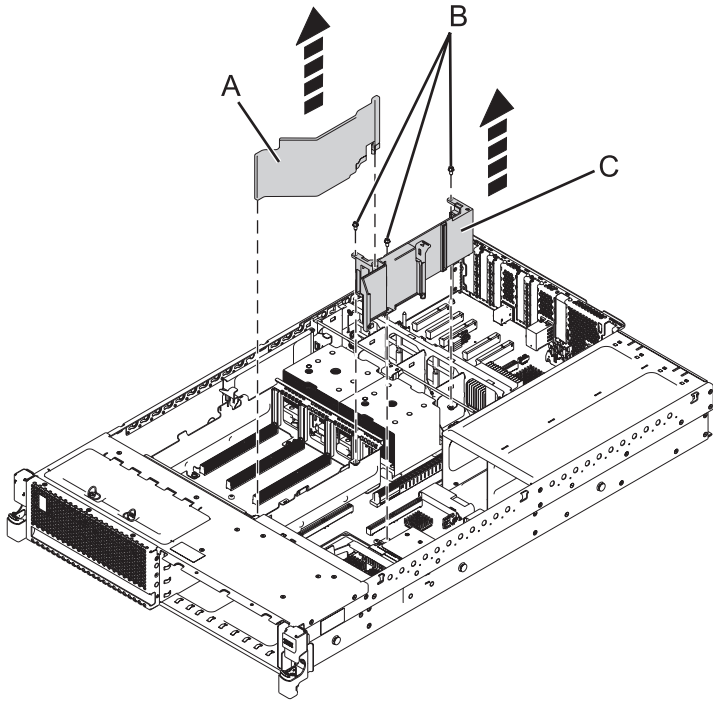
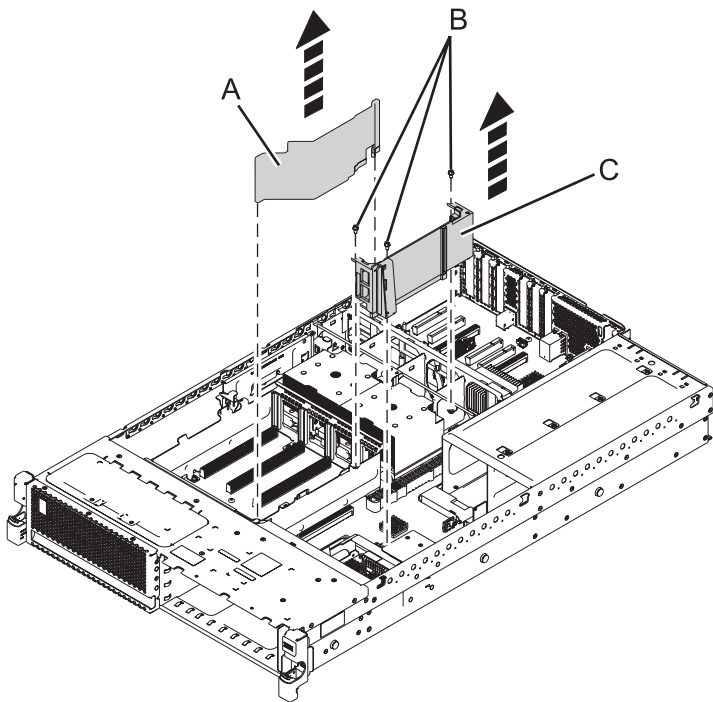

Figure 42. Removing the voltage regulator guide and air divider from the 8231-E2B
Figure 43. Removing the voltage regulator guide and air divider from the 8231-E1C, 8231-E1D, 8231-E2C, 8231-E2D, or 8268-E1D
21. Remove the voltage regulator guide and air divider. See Figure 42 on page 55 or Figure 43 on page 55.